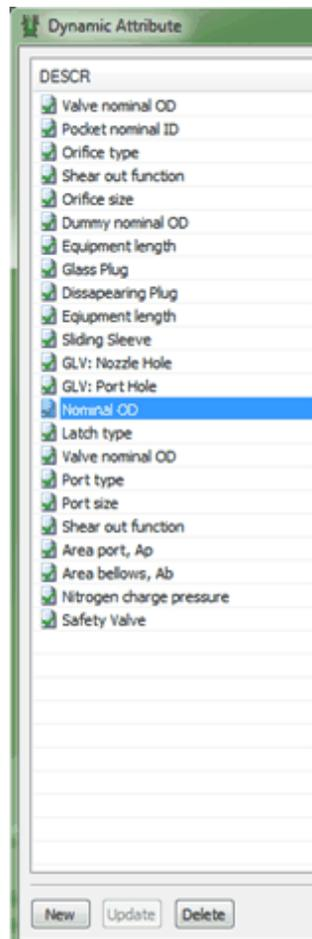
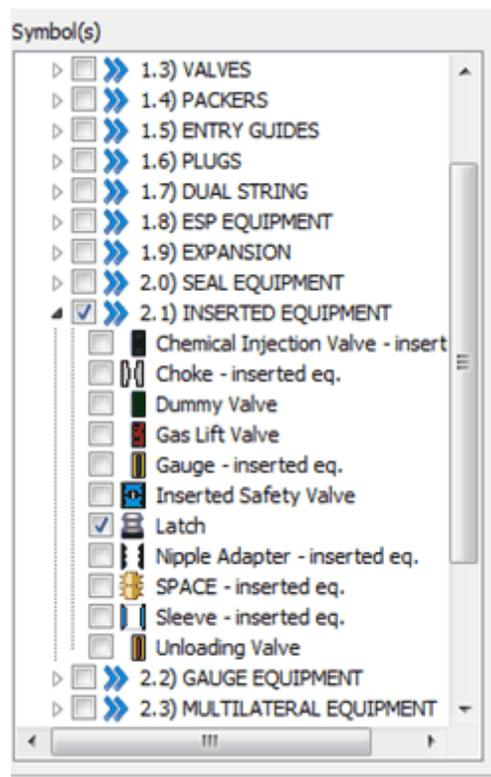

Figure 1. Here we have added the dynamic attribute.
Figure 2. Here we select the corresponding symbol.
2. Let us take an example. We want to add Nominal OD as a dynamic attribute to the Latch symbol, meaning that all Latch equipment can then register Nominal OD as a part property. Press New, and name the dynamic attribute "Nominal OD", as shown in Figure 1. Select Inserted Equipment, then Latch, under Symbols, as shown in Figure 2.